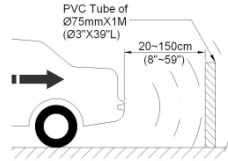

Fig.19
- ◆ Check the sensors one by one. Refer to Fig.19 & 20.